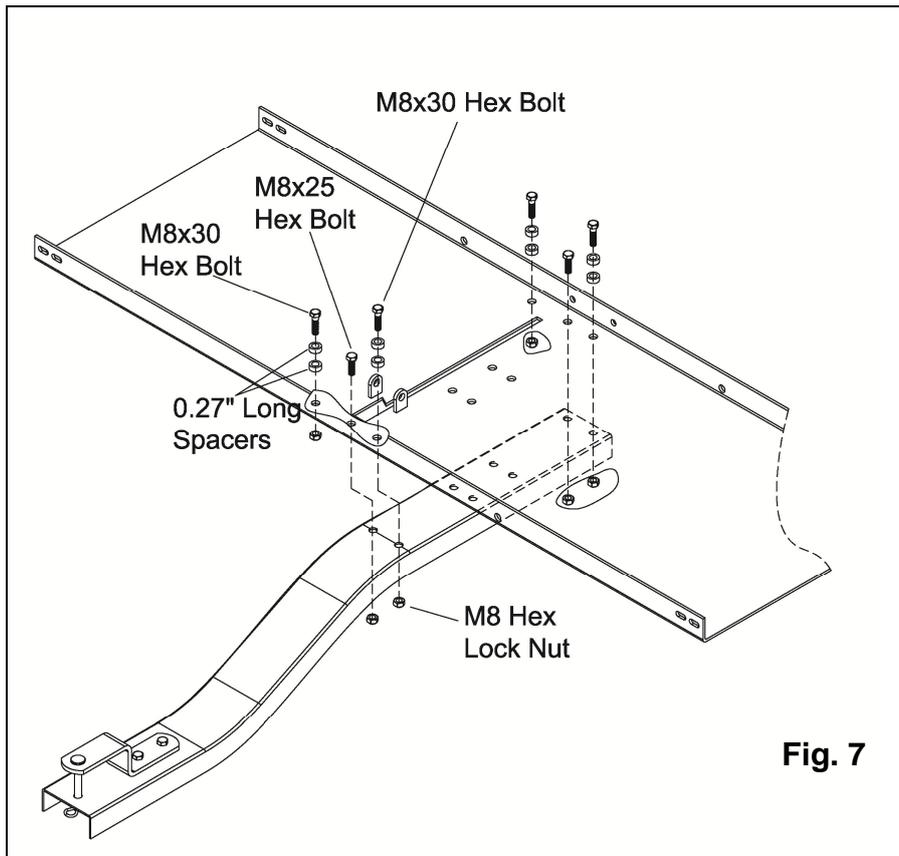

Fig. 7
Step 7: 1. Assemble the tongue to the tray, placing the wide end of the tray slot to the front. Use two M8x25 hex bolts, two M8x30 hex bolts, four 0.27" long spacers, four M8 hex lock nuts are shown in Fig.7. **Tighten.**
2. Assemble two M8x30 hex bolts, four 0.27" long spacers, two M8 hex lock nuts to the holes on the right side of the slot in the tray. Tighten. See Fig 7.